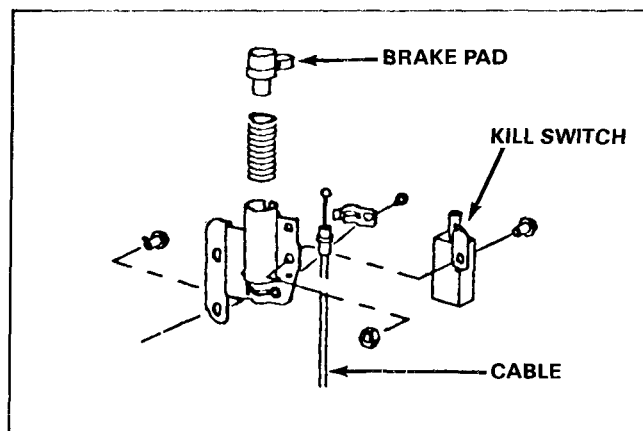

Figure 103
There are four key components that comprise the plunger type zone start brake: the control bar, the brake cable, the kill switch and the brake. See Figure 103.
3. Slide the brake tube, the spring and finally the brake disk onto the brake cable. Pull the brake cable sheath down into position at the slot provided at the bottom of the brake tube and secure with the cable clamp. See Figure 103.